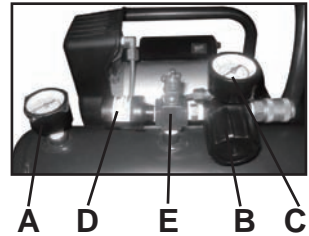

FIGURE 5
**PRESSURE SWITCH (D) FIG.5.** The pressure switch automatically starts the motor when the tank pressure drops below the factory set "Cut-In" pressure. It also stops the motor when the air tank pressure reaches the factory set "Cut-Out" pressure.
**REGULATOR (B) FIG.5.** The air pressure coming from the air tank is controlled by the regulator. Turn the regulator knob clockwise to increase pressure and counterclockwise to decrease pressure. To avoid minor readjustment after making a change in the pressure setting, always approach the desired pressure from a lower pressure. When reducing from a higher to a lower setting, first reduce the pressure less than that desired, then bring it up to the desired pressure. Depending on the air requirements of each particular accessory, the outlet regulated air pressure may have to be adjusted while operating the accessory.
**OUTLET PRESSURE GAUGE (C) FIG.5.** The outlet pressure gauge indicates the air pressure available at the outlet side of the regulator. The pressure is controlled by the regulator and is always less than or equal to the tank pressure.
**TANK PRESSURE GAUGE (A) FIG. 5.** The tank pressure gauge indicates the reserve air pressure in the tank.
**SAFETY VALVE (E) FIG. 5.** If the pressure switch does not shut off the air compressor at its "Cut-Out" pressure setting, the safety valve will protect against high pressure by "popping out" at its factory set pressure (slightly higher than the pressure switch "Cut-Out" setting).
9. Pull ring on safety valve (E) Fig. 5, allowing air to bleed from the tank until tank pressure is approximately 20 psi. Release safety valve ring.
NOTE: If drain valve is plugged, pull ring on safety valve (E) Fig. 5, and hold until air pressure has been released. The valve can then be removed, cleaned, and reinstalled.
4. Pull ring on safety valve (E) Fig. 5, allowing air to bleed from the tank, until tank pressure is approximately 20psi. Release safety valve ring.
**NOTE:** If drain valve is plugged, pull ring on safety valve (E) Fig. 5, and hold until air pressure has been released. The valve can then be removed, cleaned, and reinstalled.